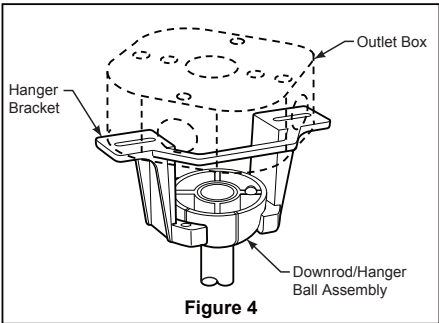

Figure 4
4. Thread downrod into the downrod support on top of the motor. Install the clevis pin by aligning the holes in the downrod support with holes in the downrod. Secure clevis pin with hairpin clip. Tighten the two set screws with nuts in the downrod support. (Figure 4)
- ☐ 2. Carefully lift the fan and seat the downrod/hanger ball assembly on the hanger bracket that was just attached to the outlet box. Be sure the groove in the ball is lined up with tab on the hanger bracket. (Figure 4)
3. Connect wires using connectors as shown in Figure 4.
4. Assemble the LED assembly to the light kit assembly use the removed screws in Step 2. (Figure 4)
4. To make fan operational, install two 3V batteries (included) in hand-held remote transmitter, with fan power off. Then, follow the remote code setting process. If not used for long periods of time, remove battery to prevent damage to transmitter. Store the remote away from excessive heat or humidity. (Figure 4)